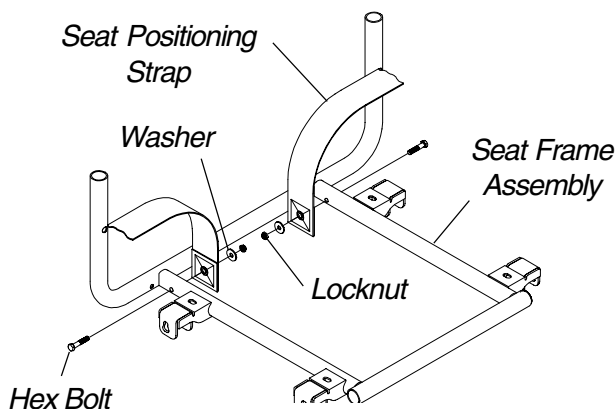

FIGURE 7 - REPLACING SEAT POSITIONING STRAP
REPLACING SEAT POSITIONING STRAP (FIGURE 7)
2. Remove the two (2) hex bolts, washers and locknuts that secure the seat positioning strap to the seat frame assembly.
3. Remove the two (2) halves of the seat positioning strap from the seat frame assembly.
4. Position the two (2) new seat positioning strap halves on the inside of the seat frame assembly as shown in FIGURE 7.